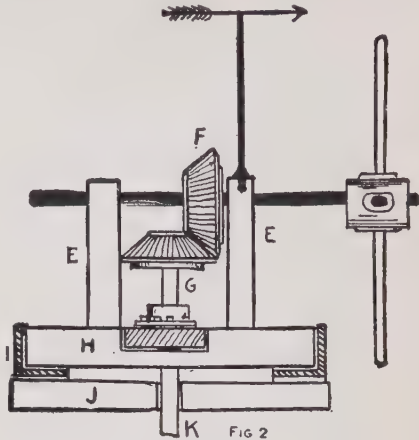

FIG. 2
The stand for the wheel shaft is shown in Fig. 2. Arrange the base piece in platform order, (J). This is more fully shown in Fig. 5. On top of this base piece, which is about 36 in. long, place the seat or ring for the revolving table. The circular seat is indicated at I, Fig. 1. This ring is like an inverted cheese box cover with the center cut out. It can be made by a tinner. Size of ring outside, 35 in. The shoulders are 4 in. high and made of tin also. Form the shoulder by soldering the piece on. Thus we get a smooth surface with sides for the mill base to turn in so as to receive the wind at each point to advantage. The X-shaped
2-in. plank, about 3 in. wide, arranged so that the two pieces cross to make a letter X. When the pieces join, mortise them one into the other so as to secure a good joint. Adjust the uprights for sustaining the wheel shaft to the X-pieces as shown at E, E, Fig. 2. These are 4 by 4 in. pieces of wood, hard pine preferred, planed and securely set up in the X-pieces by mortising into the same. Make the bearings for the